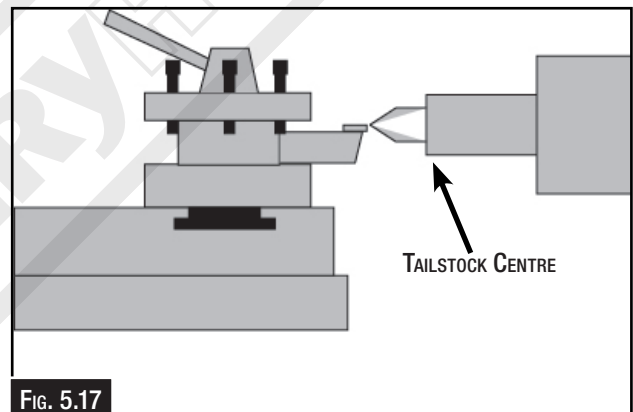

FIG. 5.17
2. Align the tip of the cutting tool with a tailstock center, as described in the following procedure.(Fig. 5.17)